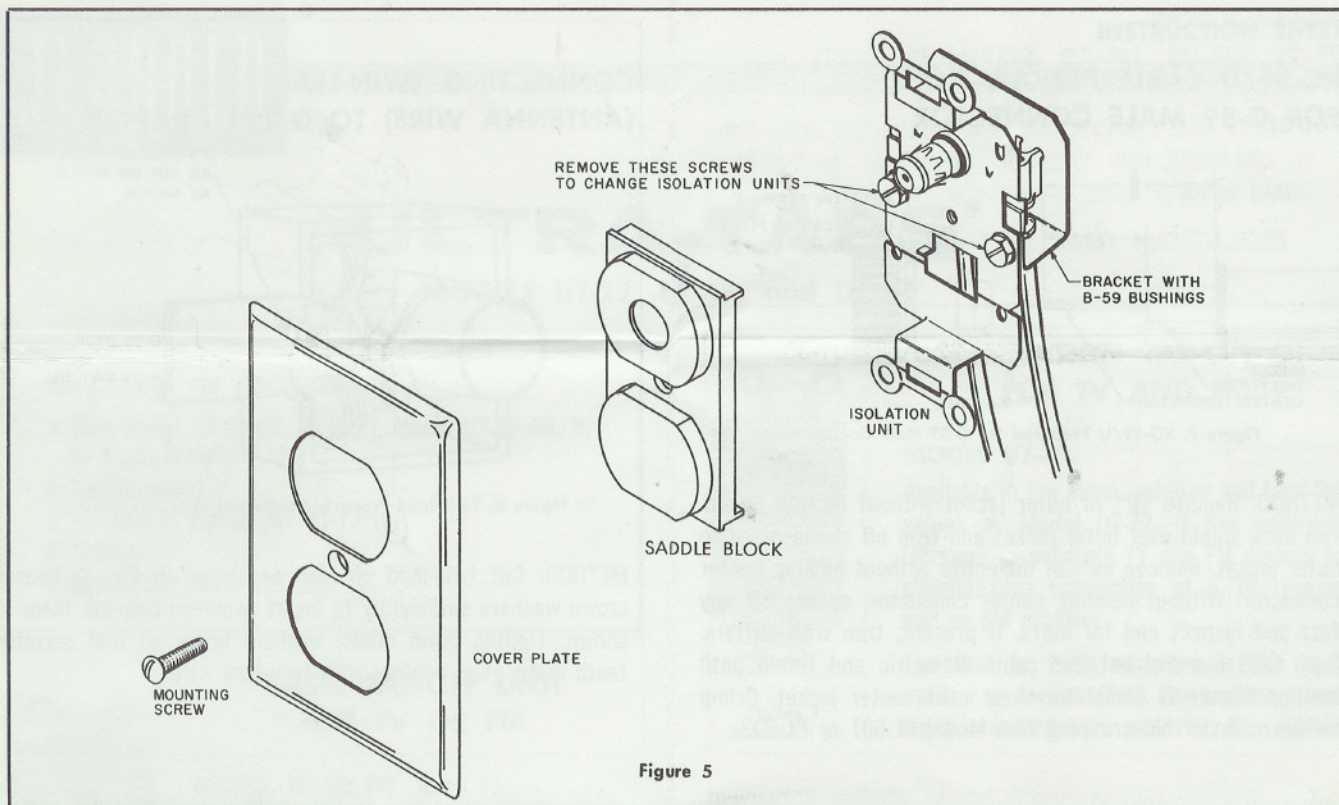

Figure 5
6. Place saddle block over isolation unit and place flush mounting plate over saddle. See Fig. 5. Then fasten both into position with mounting screw provided.
1. Remove cover plate and saddle block or surface housing from unit and pull entire unit out of outlet box. Do **not** disconnect cables. Remove two screws (see Fig. 5) and remove isolation unit.